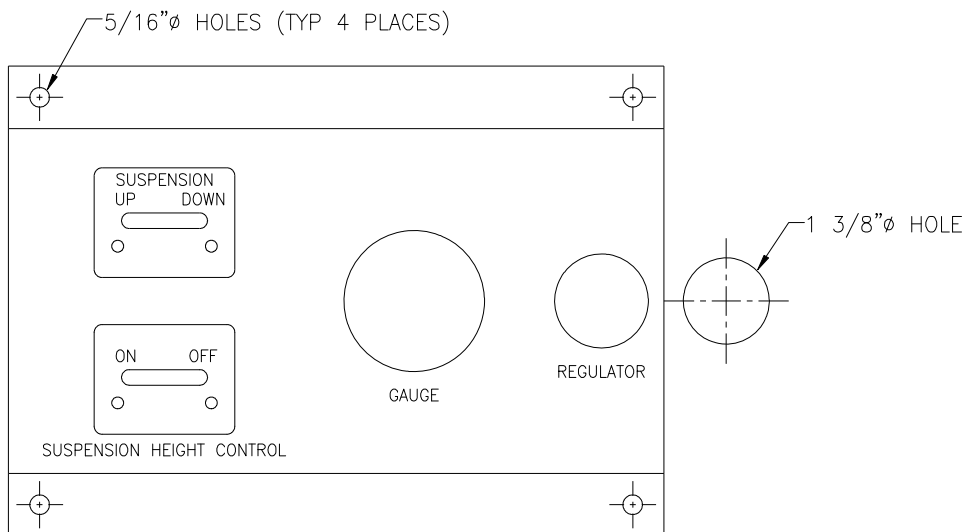

Figure 2
- 3) Locate a convenient area in the floor, near Regulator side of the bracket (See Figure 2), where you can run the three air hose through. Using a hole saw, drill a 1 3/8" diameter hole through floor covering, any padding and the floor steel.